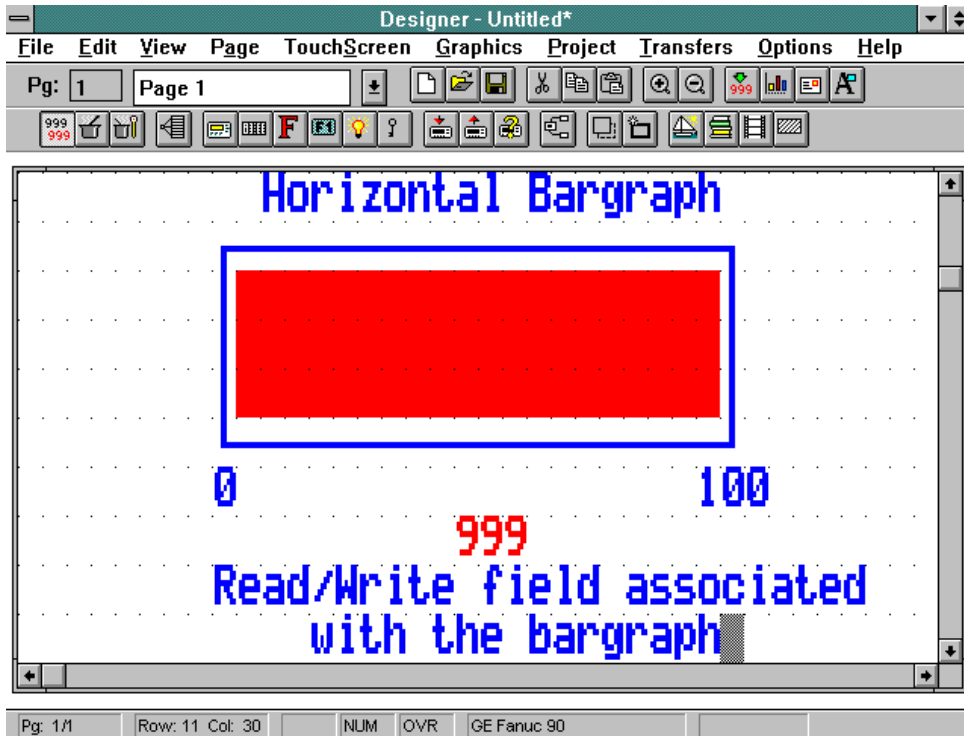

Figure 3-2
3. Figure 3-2 represents a bargraph with a field width of 20, a field height of 3, a minimum value of 0, and a maximum value of 100. The minimum value is the point at which the bargraph is empty. Likewise, the maximum value is the point at which the bargraph is full.